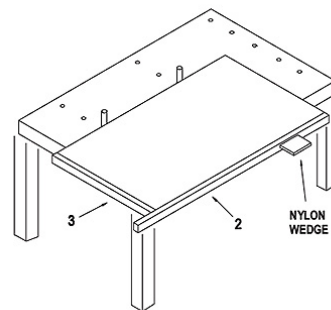

FIGURE 1
Note: Assembly of a hinge-left door is shown in Figure 1. For a hinge-right door, place bottom rail assembly at opposite side.
1. Lay glass flat, smooth side up on assembly table (Figure 1) and bracing glass on far side as shown so hinge rail can be driven into place. Apply hinge rail glazing channel (1) to edge of glass nearest you. Start vinyl 5/8" up from the bottom of the glass and cut flush with the top of glass.